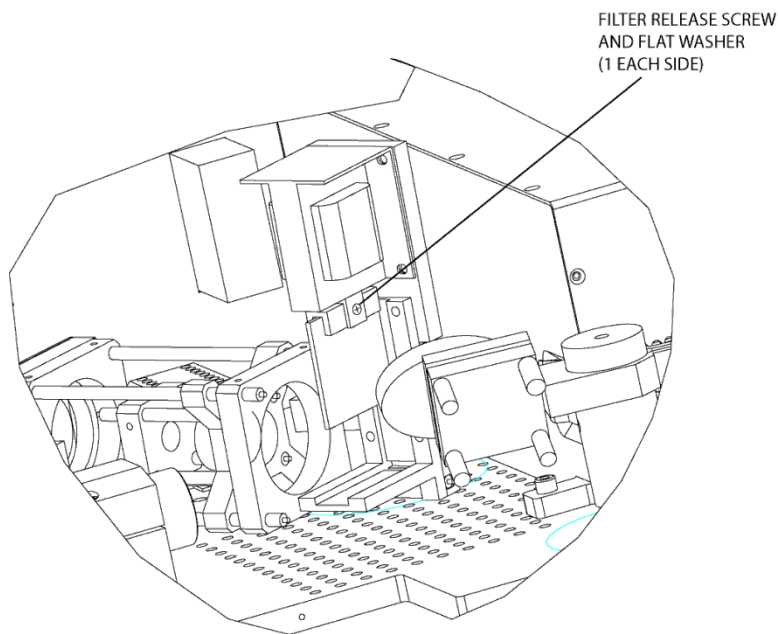

Figure 7: UV Filter Assembly Replacement
6. Using lint free gloves or being careful not to touch the filters, remove the two screws and washers (see figure 7) securing the UV Filter Assembly to the shutter control valve arm. You may wish to lift the assembly slightly for better access to the screws.